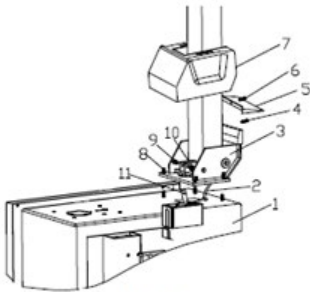

Fig 3
2. Place the tilting sear (3, Fig. 3) on the body (1, Fig. 3) with 4 bolts (M12), push air hose (2, Fig 3) through the hole of the column. Tighten 4 self-locking nut (8, Fig 3)
3. Insert screw (9, Fig 3) into the holes of both column and tilting cylinder shaft (11, Fig 3), tighten it with self-locking nut (10, Fig 3).
4. Unscrew the two bolts on the left cover and remove the cover, connect air hose (2, Fig 3) previously mentioned to the side holes which control the tilting 5-way valve. Fix the left cover.
5. Fix the plastic cover (7, Fig 3) with two bolts (4, Fig 3).
6. Mount the plastic back cover (5, Fig 3) on the column with screw (6, Fig 3).